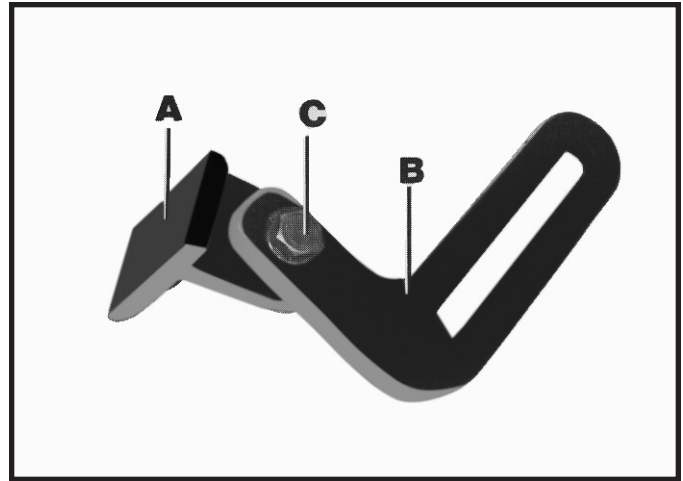

Fig. 1
1. Assemble adjustable tool rest (A) Fig. 1, to left side of tool rest arm (B), as shown, and fasten with one 3/4 inch-long hex head screw and lockwasher (C). Assemble the remaining tool rest to the right side of the other tool rest arm in the same manner. Do not completely tighten hardware at this time.